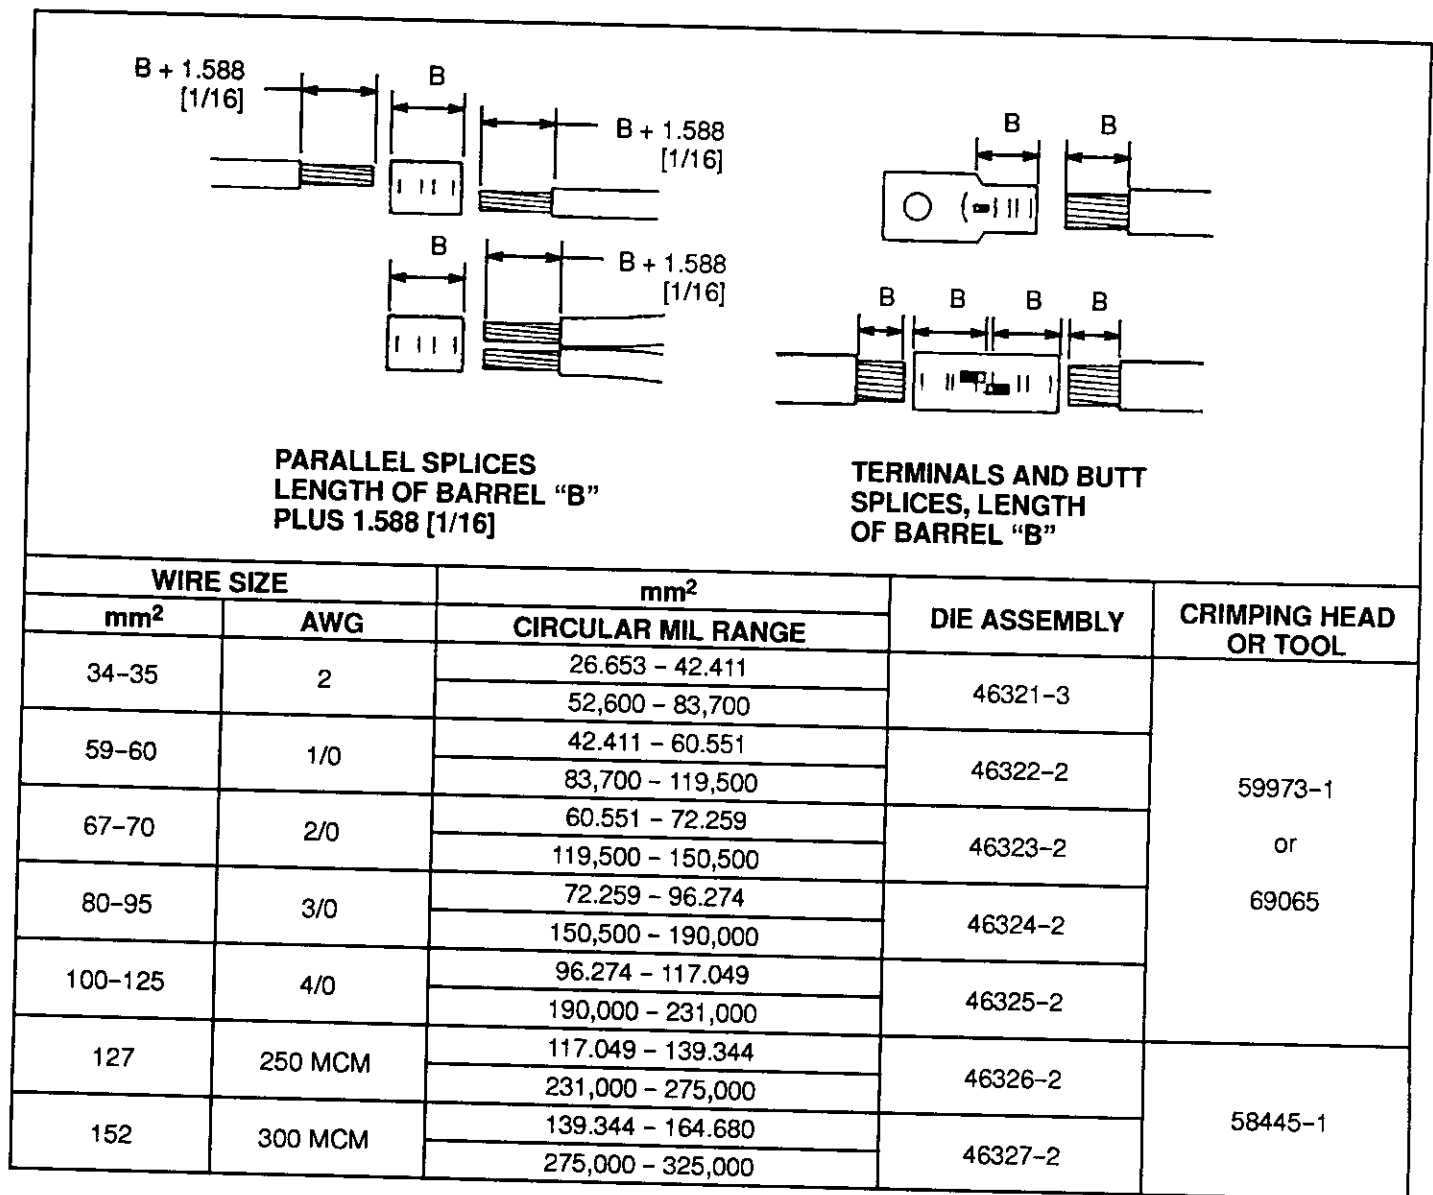

Fig. 2
This instruction sheet (IS) covers application maintenance procedures for the AMPower Crimping Die Assemblies listed in Figure 1. The die assemblies are used to crimp AMPower Terminals and Splices onto solid or stranded copper wire of the sizes listed in Figure 2. Read these instructions, and all applicable references, before inserting any die assemblies and crimping any terminals or splices.
Obtain the correct wire, terminal or splice, die assembly, and crimping tool for your application. Strip wire insulation to the dimensions indicated in Figure 2, taking care not to nick or cut conductor(s), and proceed as follows: